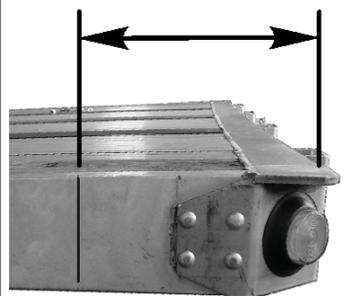

Figure 2
2) See Figure 2 At the transferred dimension, use a combination square to mark a vertical line on the side rail of the trailer. This is where the front of aluminum rail will start.